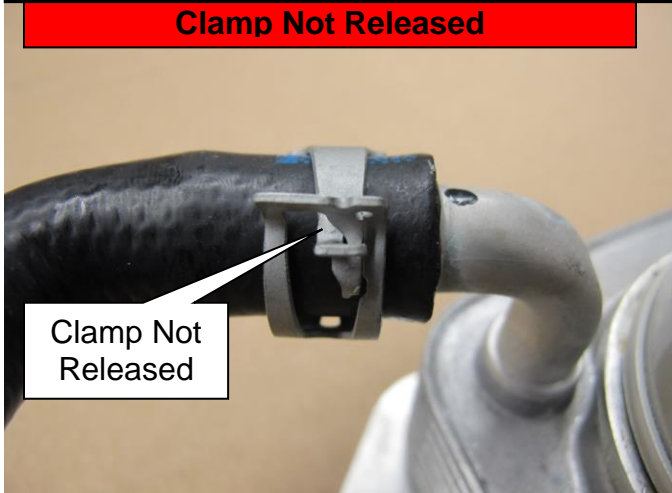

Figure 12
- Clamp not released/Clamp loose (Figure 12).